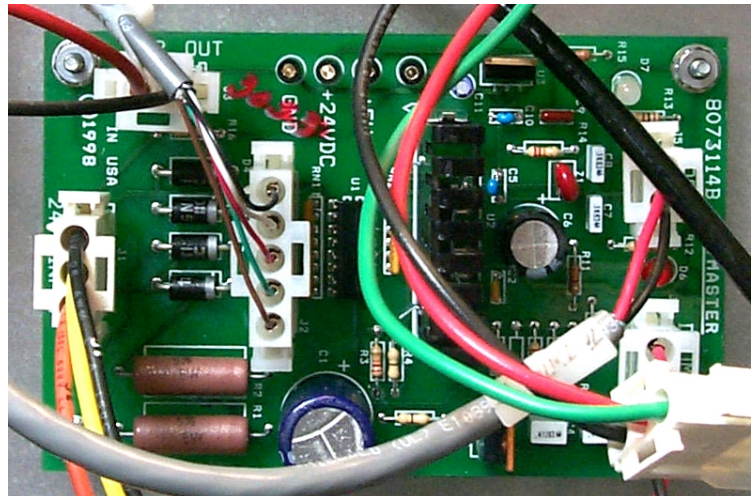

Fig.14: The motor interface is attached on four studs at the back of the unit.
- Remove the four mounting nuts, being careful to leave the spacers on the mounting studs. Fig. 14.